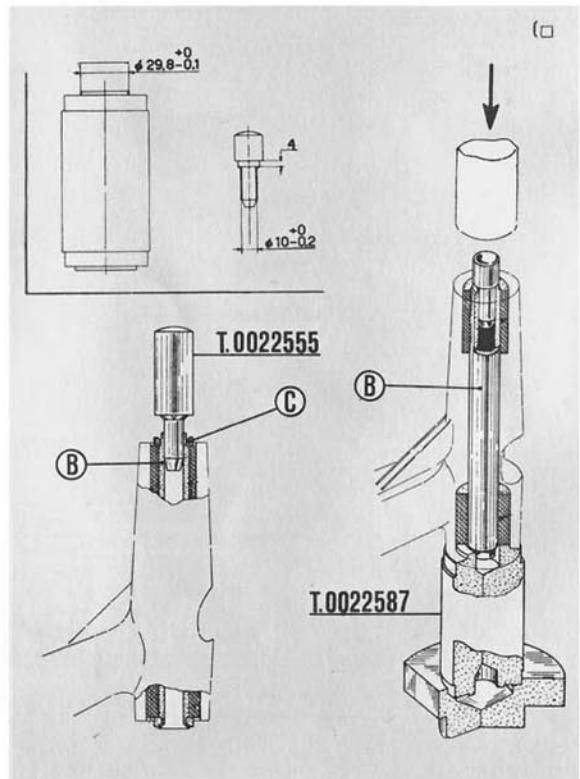

Fig. 61
3rd Operation (Fig. 61): Fit the spacers "C" and caulk the tube "B" at both extremities.
Note - If with the coulking of the tube (Operation 3) the caulked extremities are not at the same distance from the corrisponding engine bracket extremity it is necessary to act on the tube "B" with a hand press, Fig. 61, so as to obtain the correct projection of the extremities.
3.a Operación (Fig. 61): montar los distanciadores "C," y achaflanar el tubo "B," en las dos extremidades.
N. B. - Si con el achaflanado final del tubo (op. 3) las extremidades achaflanadas no se hallan a la misma distancia de la correspondiente extremidad del travesaño, actuar sobre el tubo "B," con una prensa a mano (ver fig. 61) hasta obtener un correcto resalte de las extremidades.